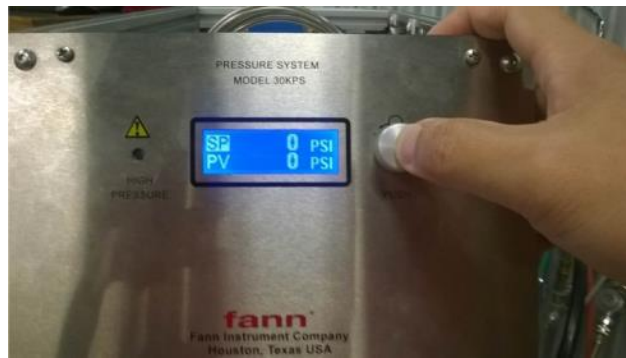

Figure 5-1 Display Screen
3. See main screen (shown in Figure 5-1)